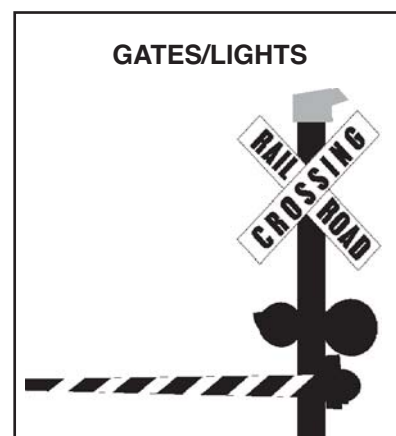

Figure 10.8
**Flashing Red Light Signals:** At many highway-rail grade crossings, the crossbuck sign has flashing red lights and bells. When the lights begin to flash, stop! A train is approaching. You are required to yield the right of way to the train. If there is more than one track, make sure all tracks are clear before crossing. (See Figure 10.8.)
**Gates:** Many railroad-highway crossings have gates with flashing red lights and bells. Stop when the lights begin to flash and before the gate lowers across the road lane. Remain stopped until the gates go up and the lights have stopped flashing. Proceed when it is safe. If the gate stays down after the train passes, do not drive around the gate. Instead, call your dispatcher. (See Figure 10.8.)